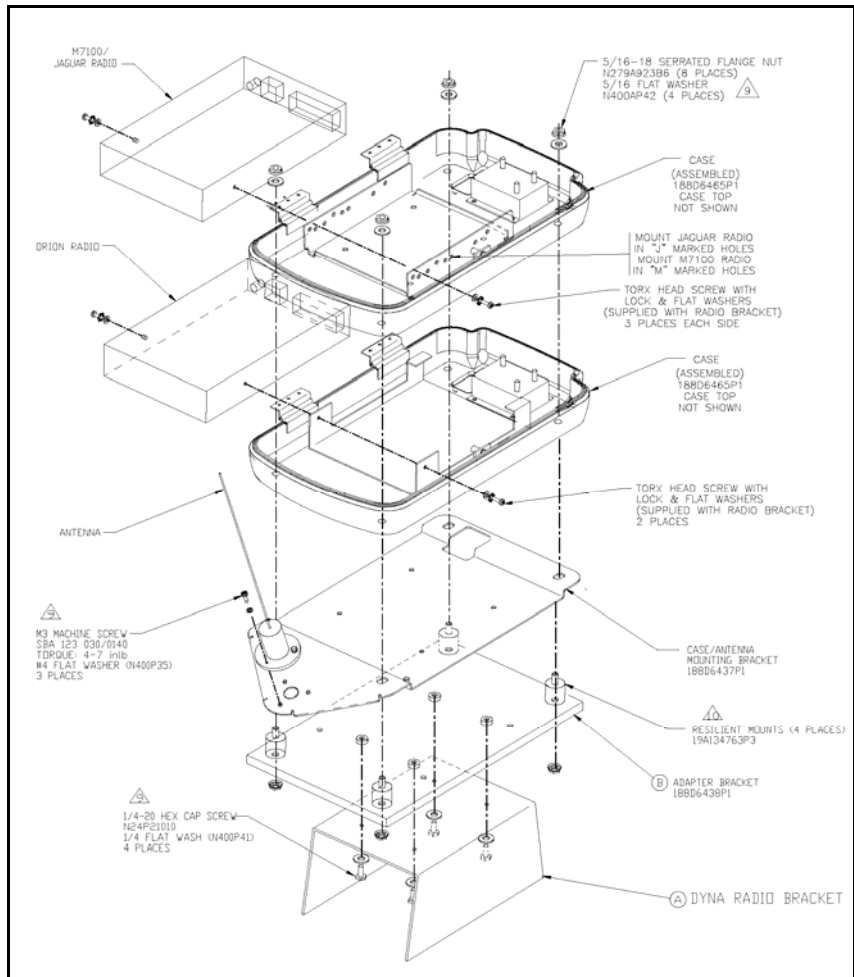
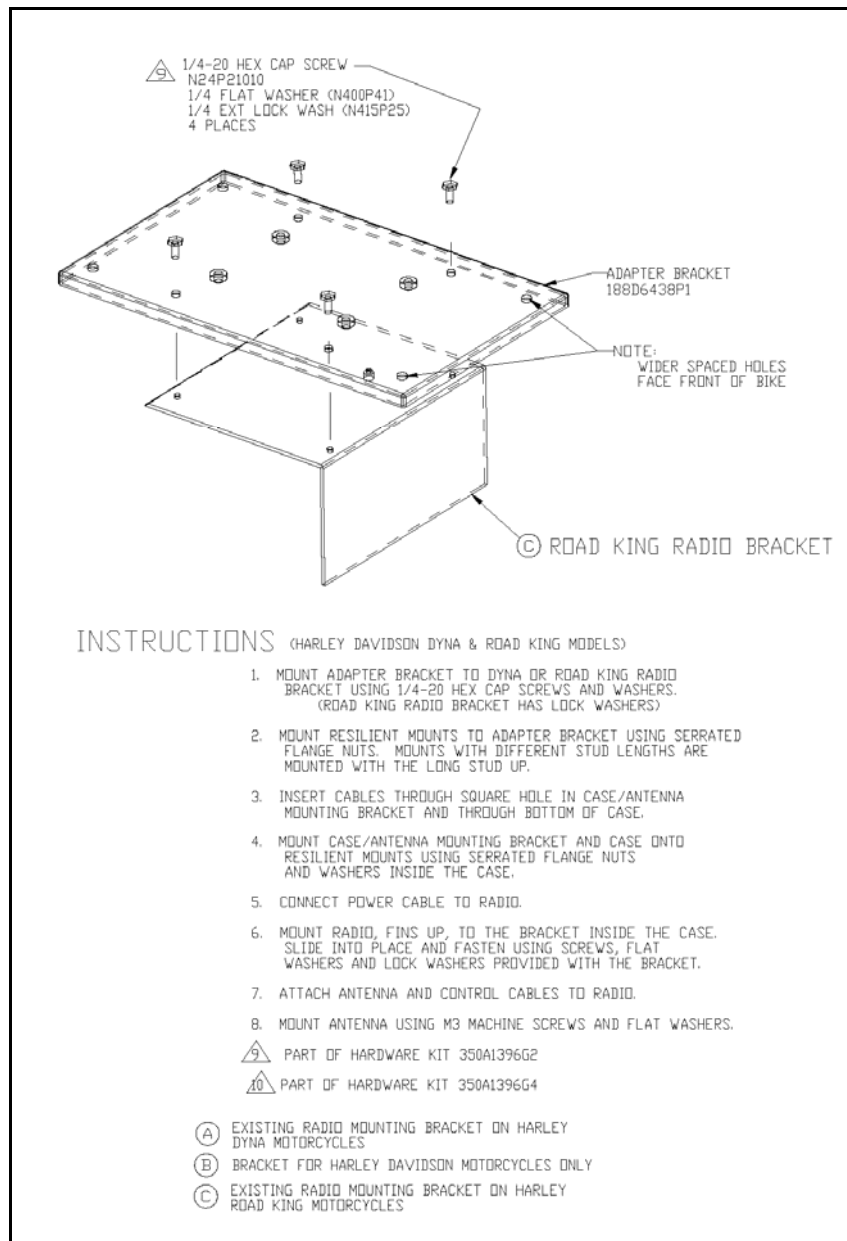

Figure 6-1: Radio Installation
Figure 6-2: Radio Installation
- Motorcycle Bracket (Motorcycle's interface with this Motorcycle Radio Case and associated hardware. Refer to Ⓐ and © in Figure 6-1 and Figure 6-2.)
The motorcycle Weather Resistant Case Assembly may be installed on almost any motorcycle. Installation instructions provided here include information for the Harley-Davidson[®] Dyna[®] and Road King[®] models. Figure 6-1 and Figure 6-2 illustrate installation on Harley-Davidson motorcycles. Refer to these diagrams during installation. Installation on other motorcycles is at the discretion of the installer.
2. Refer to Figure 6-1 and Figure 6-2 and verify all components shown in the diagrams are available.
The interface radio mounting bracket (user supplied) for the Dyna and Road King models are different and require a different mounting hole configuration. See Figure 6-1 and Figure 6-2.